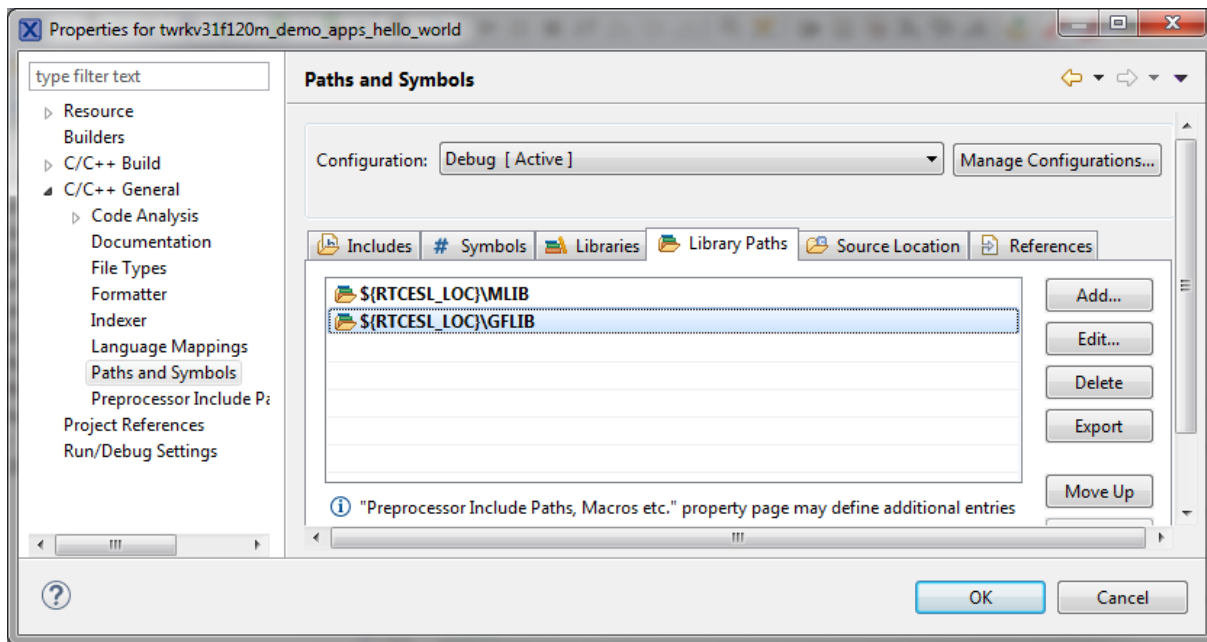

Figure 1-9. Library paths
3. In the right-hand dialog, select the Library Paths tab. See Figure 1-9.
8. Click OK, you will see the paths added into the list. See Figure 1-9.